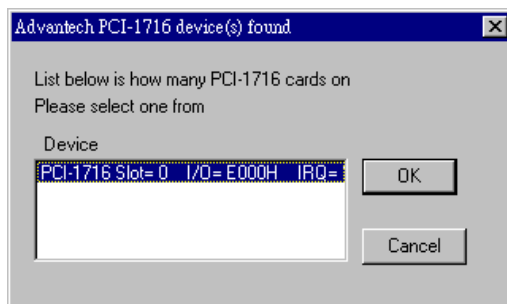
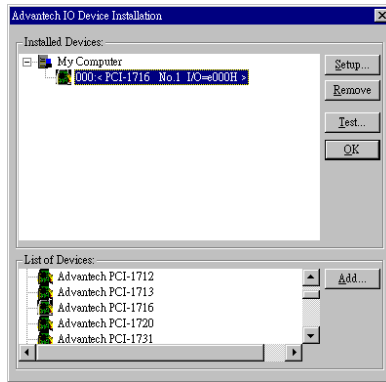

Figure 2-6: The “Device(s) Found” dialog box
Figure 2-8: *The Device Name appearing on the list of devices box*
Step 3: Scroll down the List of Devices box to find the device that you wish to install, then click the **Add...** button to evoke the *Device(s) found* dialog box such as one shown in Figure 2-6. The *Device(s) found* dialog box lists all the installed devices of selected option on your system. Select the device you want to configure from the list box and press the **OK** button. After you have clicked **OK**, you will see a *Device Setting* dialog box such as the one in Figure 2-8.
Following through the Setup and Configuration procedures to the last step described in the previous section, you can now proceed to test the device by clicking the **Test** Button on the *I/O Device Installation* dialog box (Figure 2-8). A *Device Test* dialog box will appear accordingly: